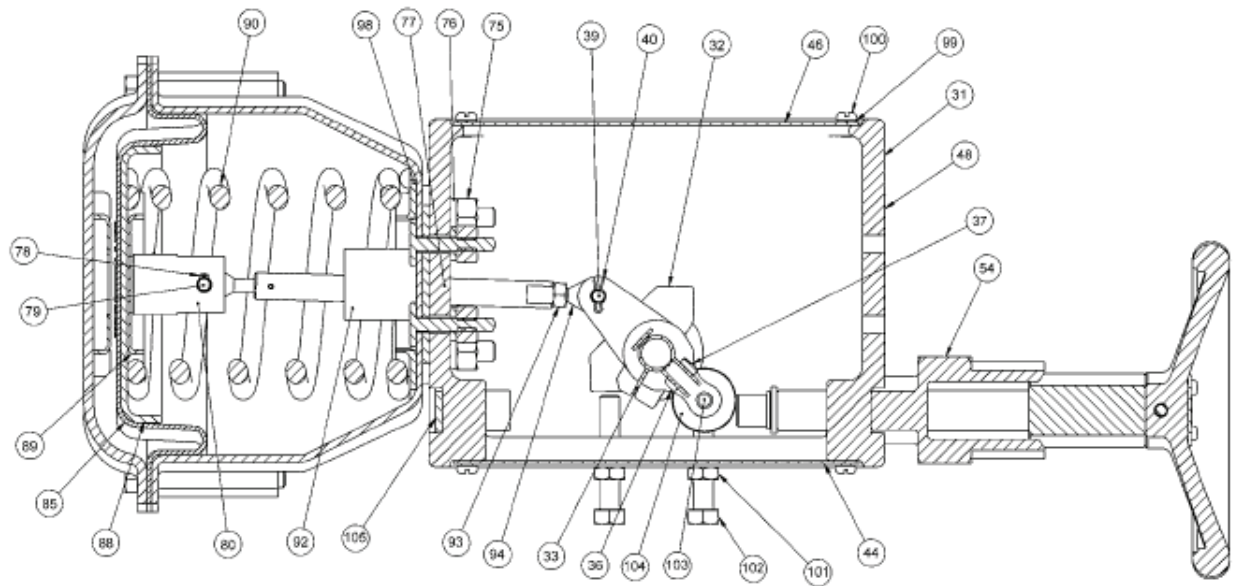

Figure 13 - Size AC Actuator
Turn handwheel to disengage position before proceeding with handwheel maintenance. Refer to Figures 13 through 16.
- D. Install assembly into handwheel mounting bracket (62) and replace pivot pins (72).
- E. Connect handwheel shaft S/A (55) to handwheel (54) and to the lever arm with pin (66) and replace clip (63).
3.5.2 Handwheel Subassembly – Model 33, Size AC. Refer to section 3.5.1 for sizes B & C. Refer to Figures 13, 14 & 16.
- B. Rotate Handwheel (54) counterclockwise until it is removed from housing (31).
3.5.2.2 Reassembly. Refer to Figures 13, 14 & 16.
- A. Thread handwheel assembly (54) into housing (31) until it extends through the housing and the groove in the stem (54-3) is visible.